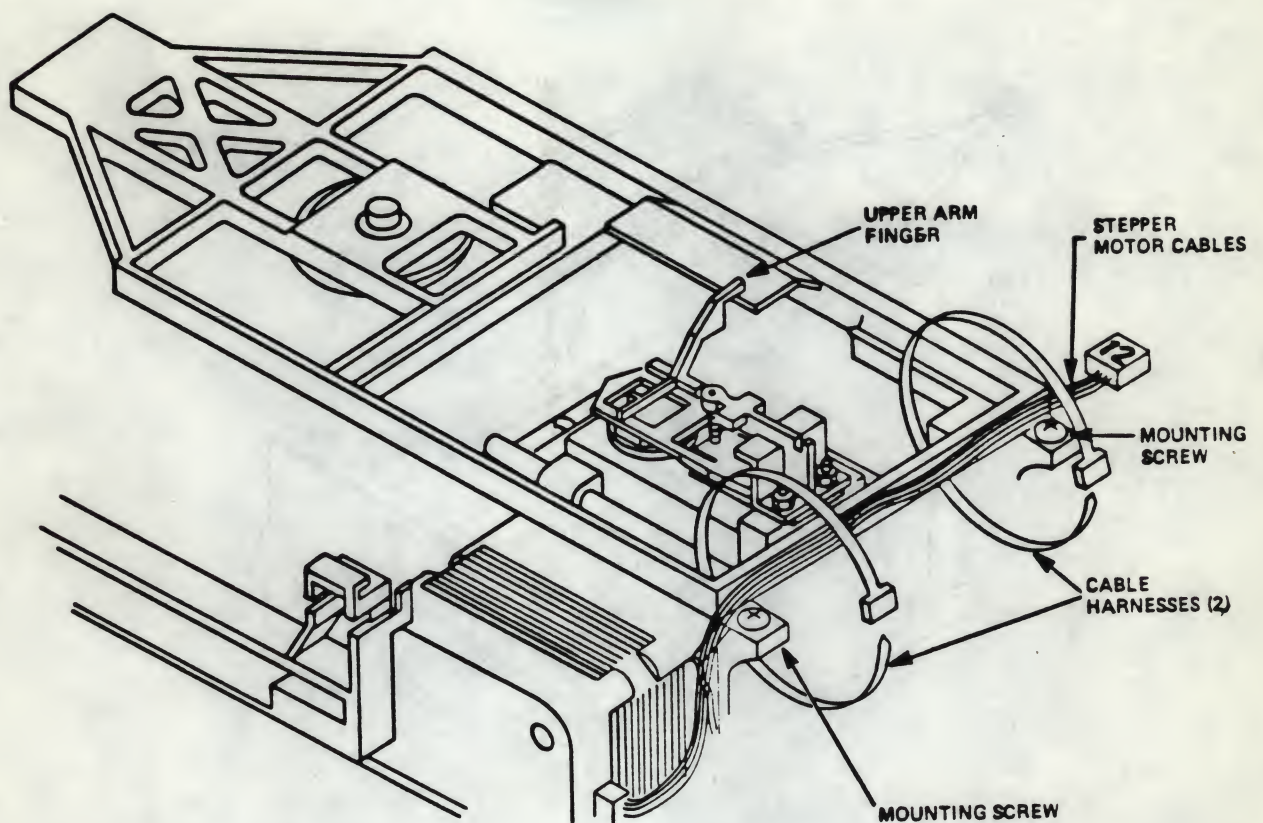

Figure 5-5
- 5.4.6 At the rear of the Cone Lever Assembly, cut the two (2) cable harnesses that hold the stepper motor cables in place (see Figure 5-5).
- 5.4.9 Slide the Cone Lever Assembly rearward to release the upper arm finger (see Figure 5-5).
- 5.4.16 Gather together and harness the stepper motor cables in two (2) places at the rear of the Cone Lever Assembly (see Figure 5-5).